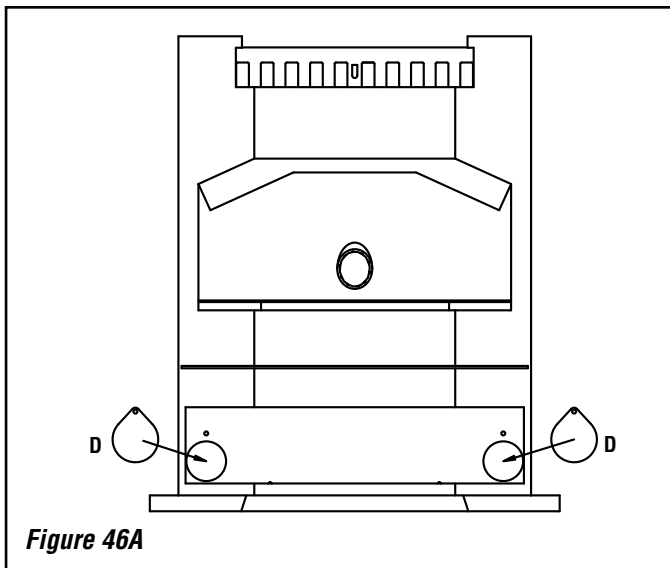

Figure 46A
There are also two more access holes located behind the ash drawer. Remove the ash drawer (see previous page) and loosen the two 5/16" screws with a 1/2" socket or wrench, the screws are shown as D in **Figure 46A and 46B on Page 24**. Rotate the covers over the access holes and use a brush and vacuum to clean the ash. Rotate the covers back over the holes and tighten the screws.
6. Remove the ash drawer (see **Figures 44**) to locate the lower left and right tear drop shaped flue passageways (see D in **Figures 46A and 46B**).